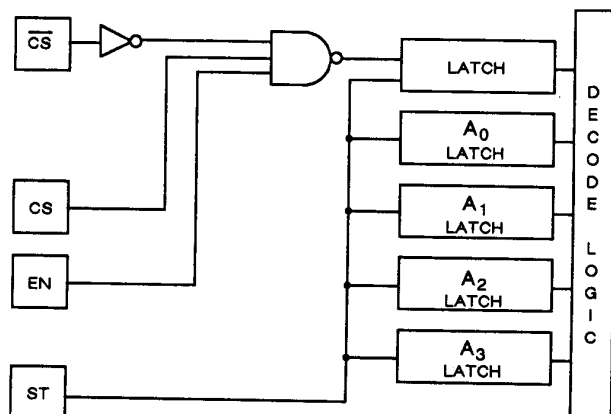

Figure 11. \overline{CS} , CS, EN, ST Control Logic
All four address inputs have on-chip data latches which are controlled by the Strobe (ST) input. These latches are transparent when Strobe is high but they maintain the chosen address when Strobe goes low. To facilitate easy microprocessor control in large matrices a choice of 3 independent logic inputs (EN, CS and \overline{CS}) are provided on chip. These inputs are gated together (see Figure 11) and only when EN = CS = 1 and \overline{CS} = 0 is true can an output switch be selected by the appropriate address input (A_0 to A_3). This necessary logic condition can then be latched by Strobe (ST) going low.